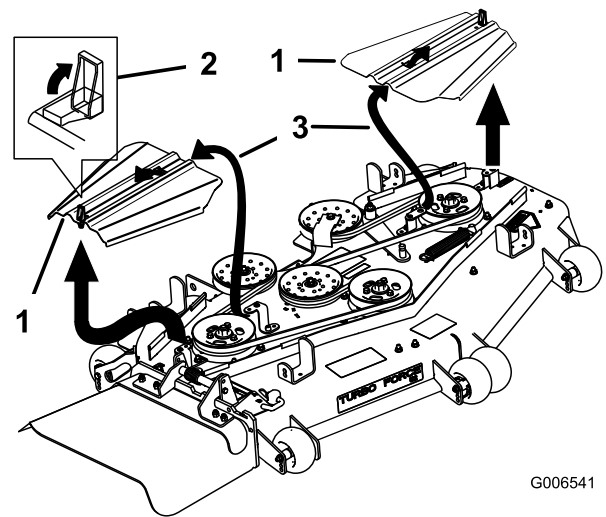

Figure 59
3. Remove the belt covers (Figure 59).